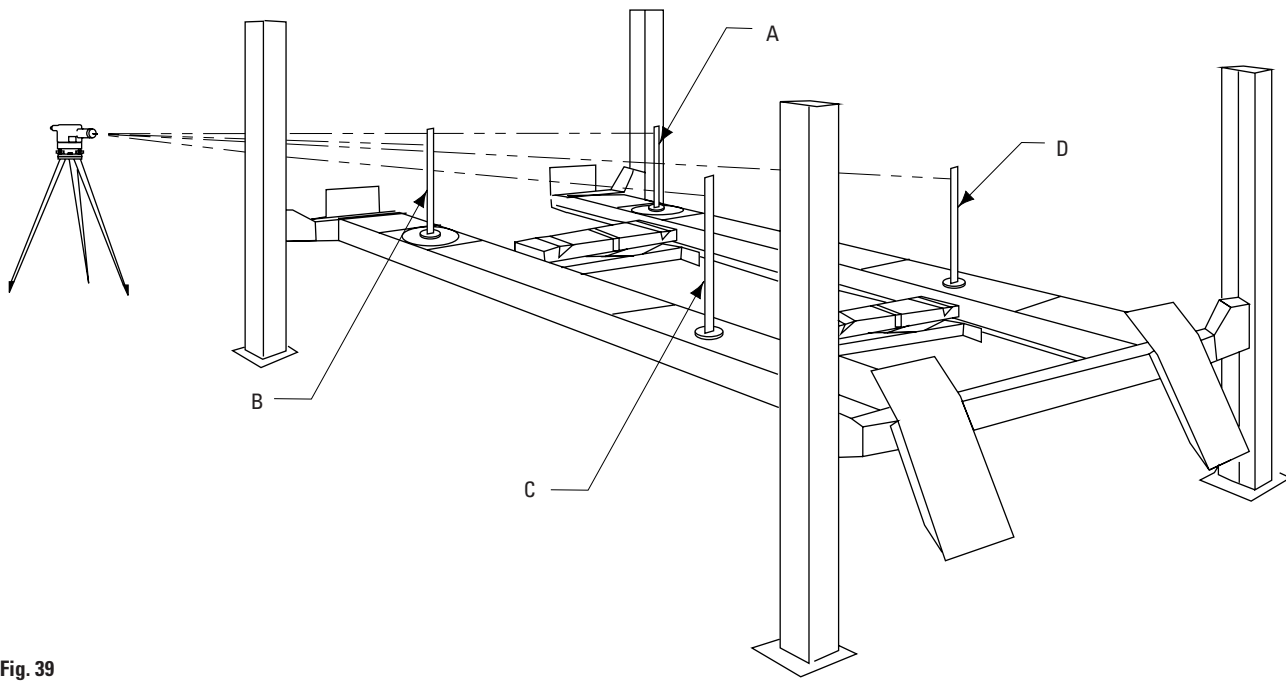
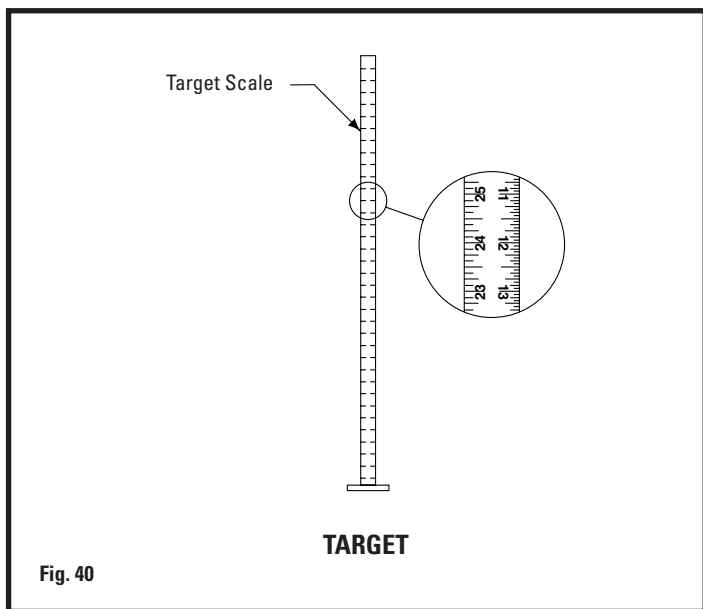

Fig. 39
Fig. 40
- D. Beginning with "A" position, Fig. 39, sight the Level to the target and mark the number or the graduation on the inch scale of the target that aligns to the crosshairs of the Level, Fig. 40.
- E. Next, move the target and place it on the turning radius gauge at point "B", Fig. 39.
- G. Adjust the adjustment nut on the locking latch plate adjustment stud at the top of the column at "B", Fig. 39, by loosening the jam nut and turning adjustment nut until the crosshairs of Level align to reference mark on the target scale.
- I. Always recheck the level of the runways to be sure all four locking latch plates are adjusted correctly. Start at point "A" and recheck level at points "B", "C", and "D", Fig. 39. Readjust, if needed. The runways are now level at all four points.